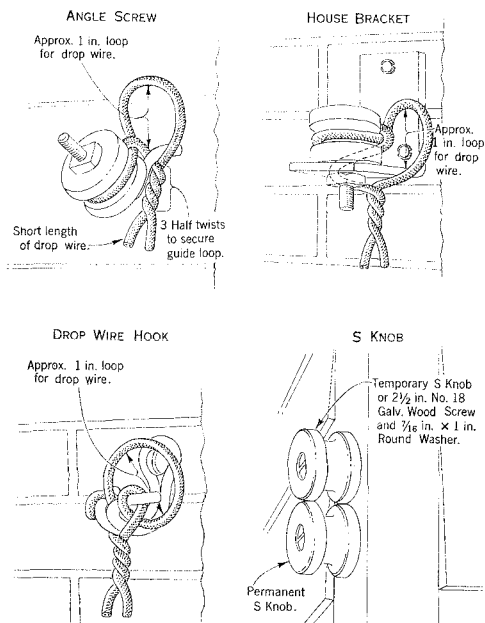

Fig. 1 — Temporary Guide Loop
- (1) Install the first building attachment or, if the drop wire is to be attached to a pole on the building side of the trolley contact or power wires or power cables, the pole attachment.
- (2) Attach a temporary guide loop to the first building attachment such as shown in Fig. 1, to prevent the drop wire from becoming accidentally disengaged from the building attachment during the placing operations.